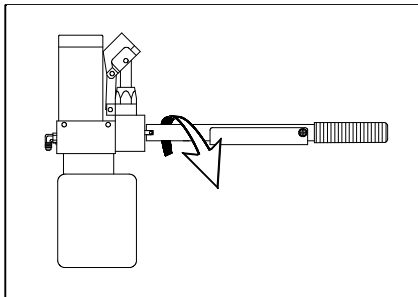

FIGURE 2-13: COUNTER-CLOCKWISE LOWERS PLATFORM
- b. Refer to **Figure 2-13**. Engage pump release valve with handle. Slowly rotate valve COUNTER-CLOCKWISE (1/4-turn max) until platform begins to lower; do not open further. Allow platform to settle on the ground, and then rotate valve CLOCKWISE to close.